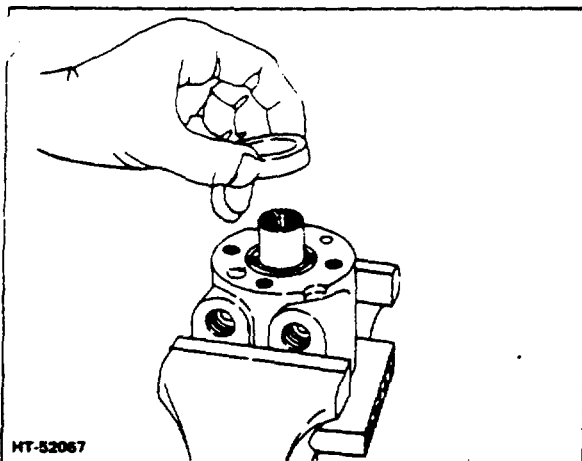

Figure 3-7. Removing Cap Locator Bushing
12. Remove cap locator bushing (Fig 3-7).